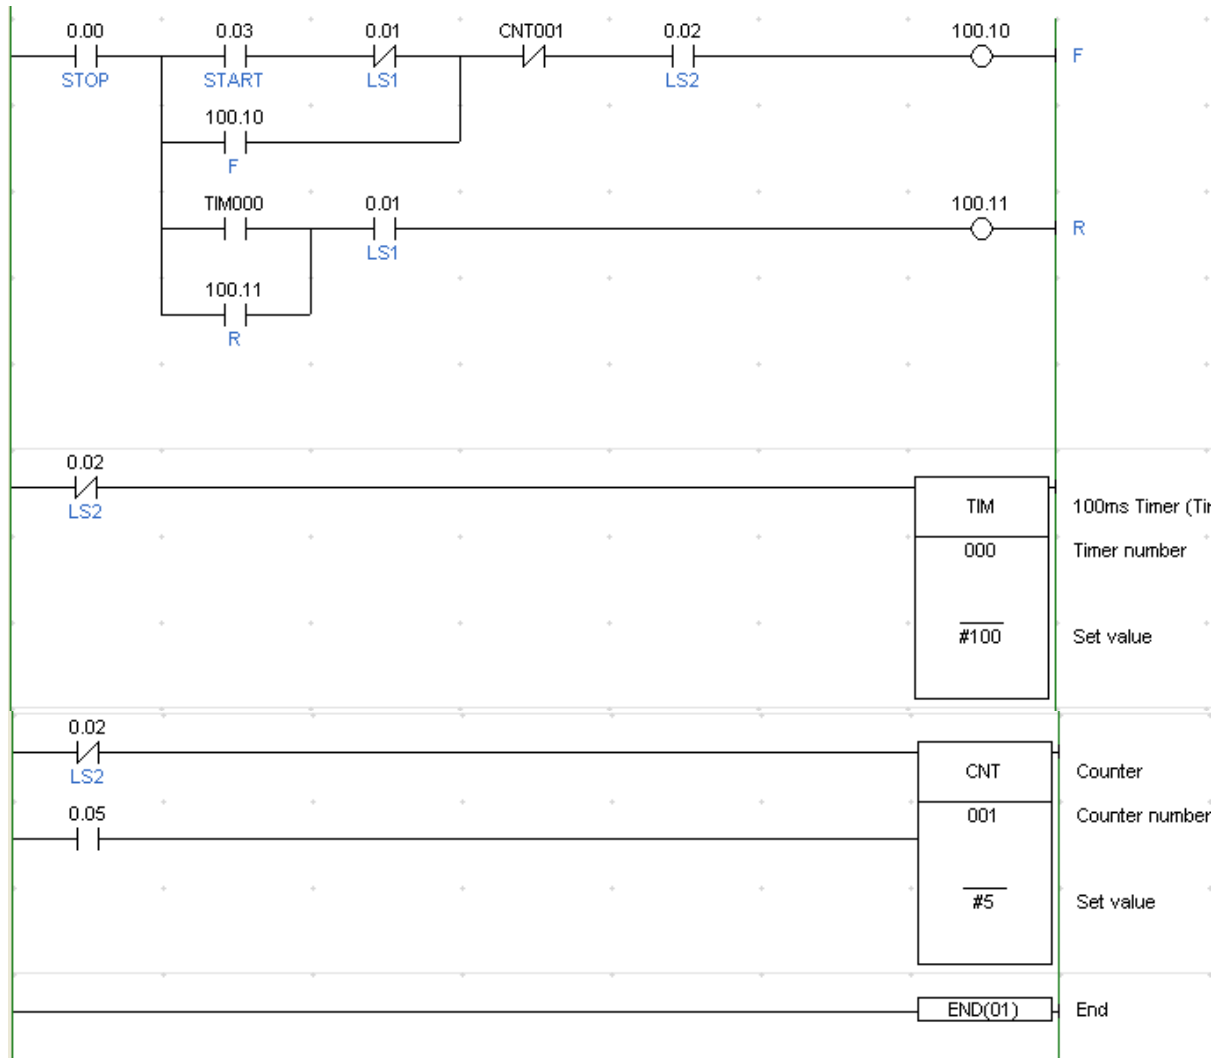

Figure 9: Ladder Diagram
The wagon is moved by the forward/reverse motor. The initial position of the wagon is the left position indicated by the limit switch LS1 (NC). When the start push button is pressed (then release), the wagon will move to the right until it touches the right limit switch LS2 (NC), After 10 Second , the wagon will moves to the left. Once it touches LS1; the wagon will stop. The stop button stops the motor regardless of which direction it is turning. The movement forward/reverse will be limited to 5 times only. The operator needs to press a reset button before the operation can resume. Ladder diagram for the system is shown in **Figure 9**.
- (a) Convert the ladder diagram in **Figure 9** to Instruction List. (6 marks)